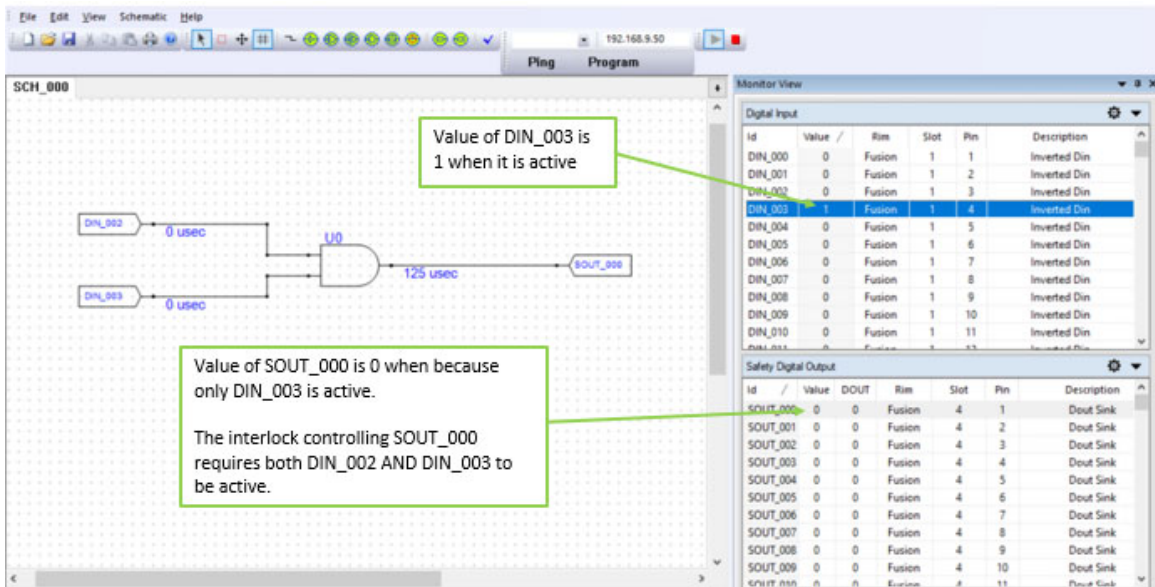

Figure 45 - Testing DIN_003
- b) Test with only DIN_003 (See Figure 45 - Testing DIN_003).